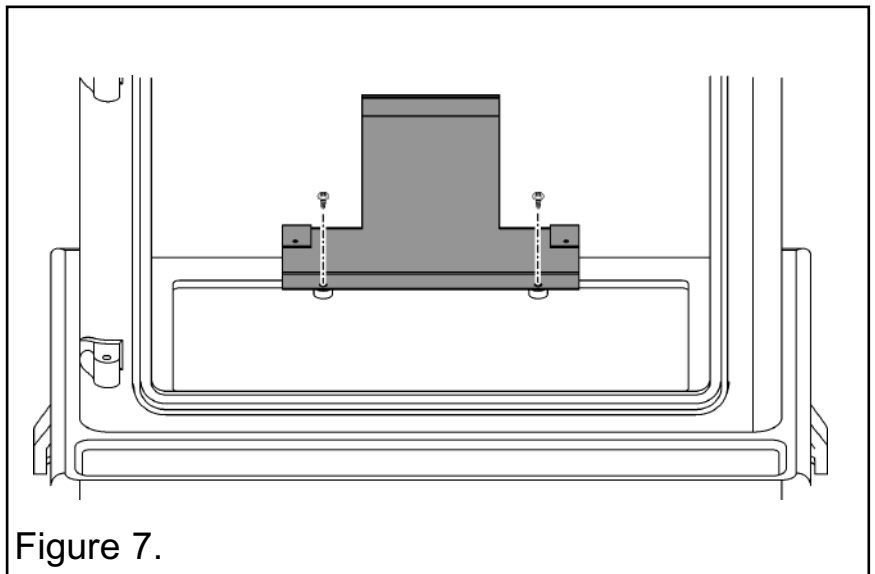

Figure 7.
3. Secure the rear leg at the back of the stove base using two No.4 x 10mm screws supplied (See figure 7).